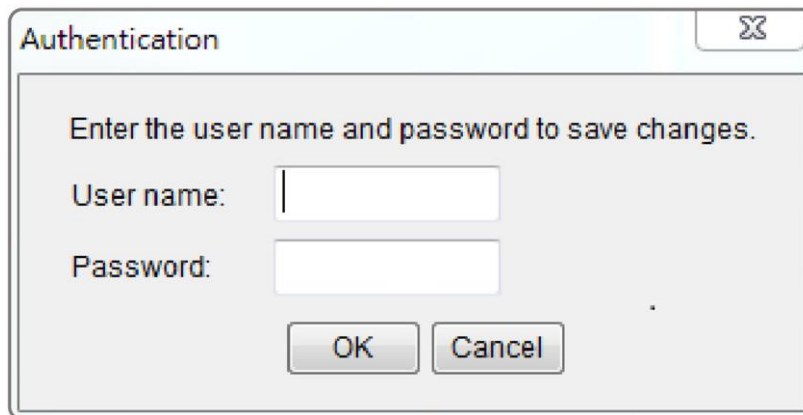

Figure 3. Authentication window.
7. You will need to enter a User Name and Password for the Management Card in the authentication window, as shown in Figure 3.